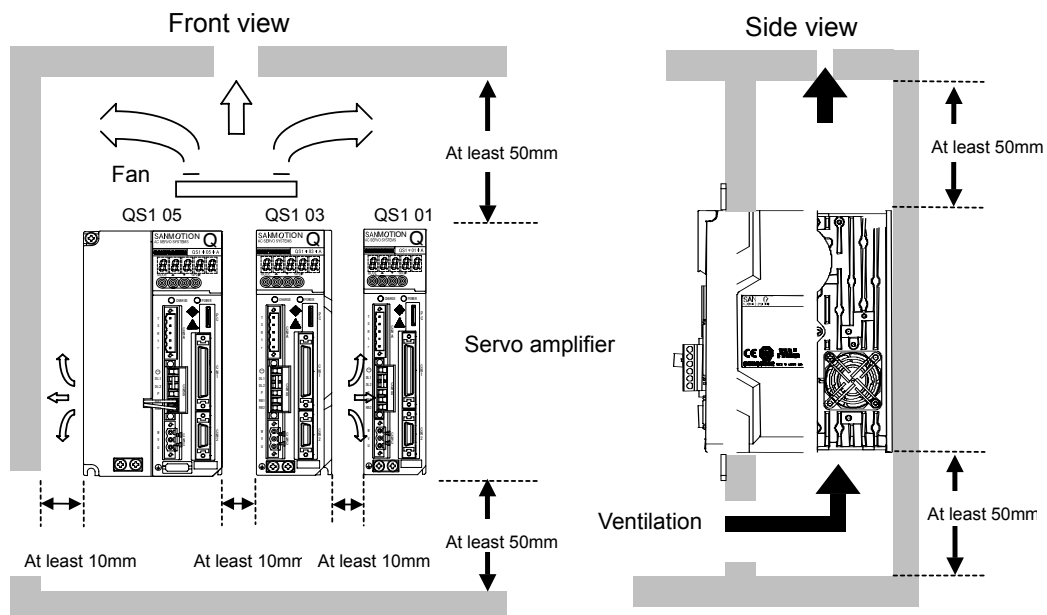

Fig 5-2 Arrangement within the machine
- ① Leave at least 10 mm space above and below the servo amplifier to ensure unobstructed airflow from the inside of the servo amplifier and the radiator. If heat gets trapped above the servo amplifier, use a fan to create airflow.
- ② Leave at least 10 mm space on both sides of the servo amplifier to ensure unobstructed airflow from the heat-sinks on the side and from the inside of the servo amplifier.
- ③ If the Q-series servo amplifier is installed on its side, make sure that the ambient temperature does not exceed 50°C, and mount the back panel to a metal plate at least 2mm thick.
- ④ Both the QS1 03 and QS1 05 have a fan attached to the side panel; therefore it is recommended to mount it in the configuration shown in Fig. 5-2.